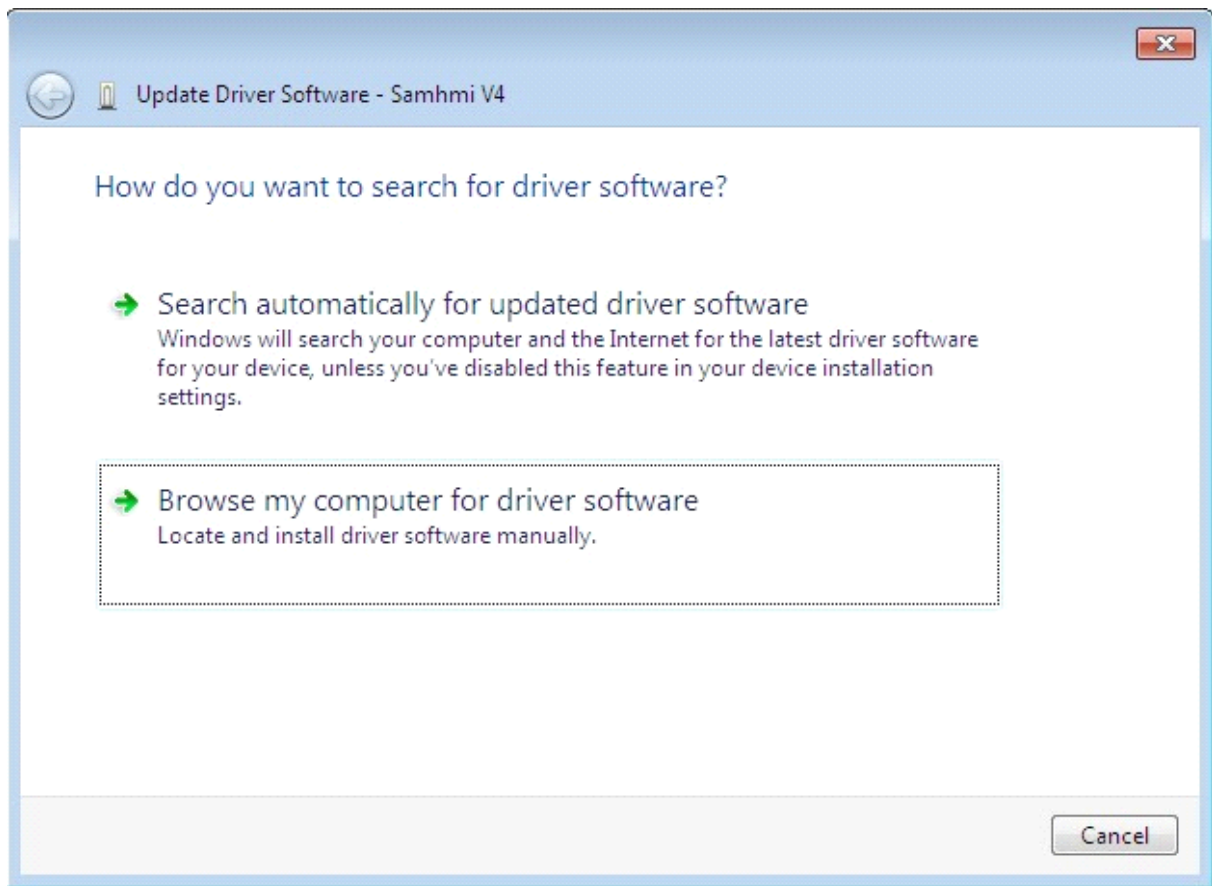

Figure 2-22: Driver updating page of VISTA
- Choose “View the computer to find the driver software” on the installation page. See Figure 2-22.